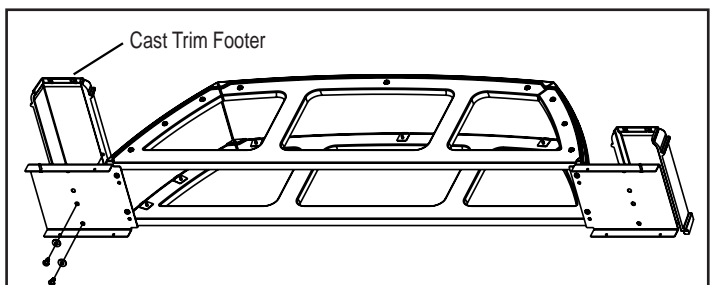

Figure 33.6
7. Attach cast footers. **Figure 33.6.**